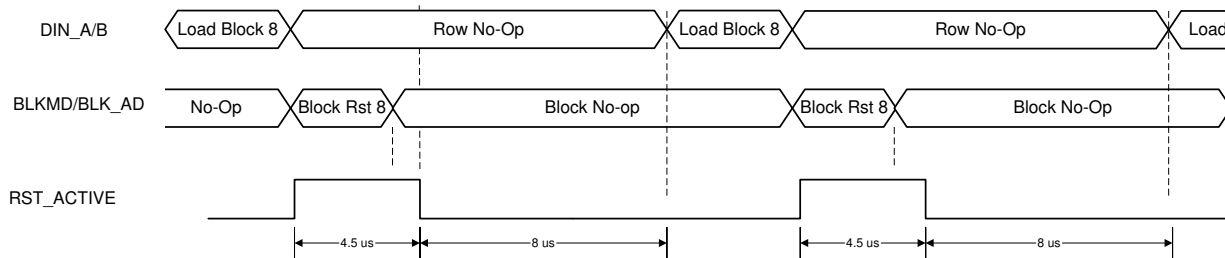

Figure 13. Block Load, Reset, and Same Block Reload
Once the block is loaded with data, a Block Reset (MCP) for that block must be initiated. This can be performed by providing a row cycle with BLKMD = "10" and with BLK_AD(3:0) equal to the block just loaded. Upon initiation of the Block Reset, RST_ACTIVE will transition high for approximately 4.5 μs indicating a Reset operation is taking place and that no additional Reset Requests will be accepted during that time. In the case of wanting to reload the same block with new data, one must wait for the 12.5 μs (RST_ACTIVE (4.5 μs) + the micromirror settling time (8 μs)) before the reload of the same block can start. Waiting this time allows for the DMD micromirrors in that block to settle to a stable state prior to reloading the memory cells underneath with new data. Figure 13 shows a single block load, Mirror Clocking Pulse and reload sequence with the 8 μs periods indicating micromirror settling times.
Although Figure 13 shows that one must wait for the mirror settling time of the current block (Block=8 in this case) to complete before reloading data into the same block (8), it is possible to load data to a different block while waiting for Block 8 to settle. However, it must be a block which is not currently being Reset nor which has micromirrors which are still settling. This method is used in the Phased Mode of operation described in Single Block Phased Mode.